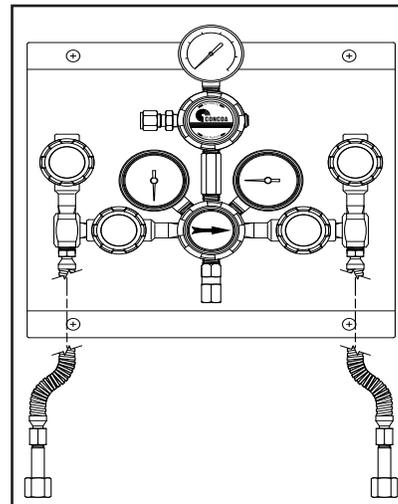

Figure 6
8. Secure the micro-tee as illustrated in Figure 6 with a wrench while threading the taped male NPT end of the pigtail. If the 619 is configured with two cylinders per side, thread the second hose or pigtail into the elbow located on the backside of the micro-tee.